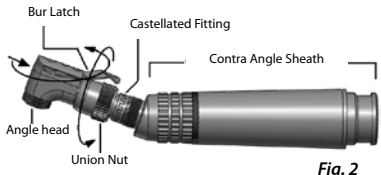

Fig. 2
Mounting Angle Heads (Fig. 2)
3. Turn union nut in direction indicated in Fig. 2 until finger tight.